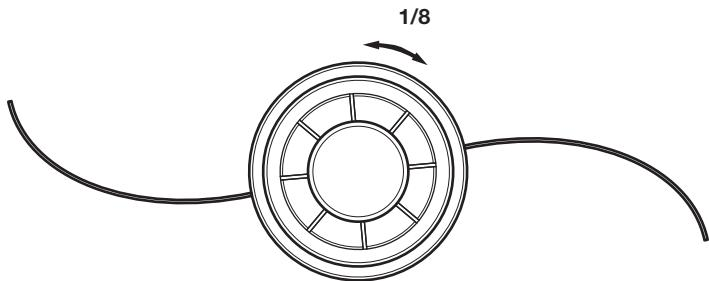

Fig. 8
- IF..** the lower shaft housing does not enter the coupler completely and the holes do not align, remove the lower shaft housing, rotate the cutting head slightly (1/8th turn) and repeat step 4 (Fig. 8).